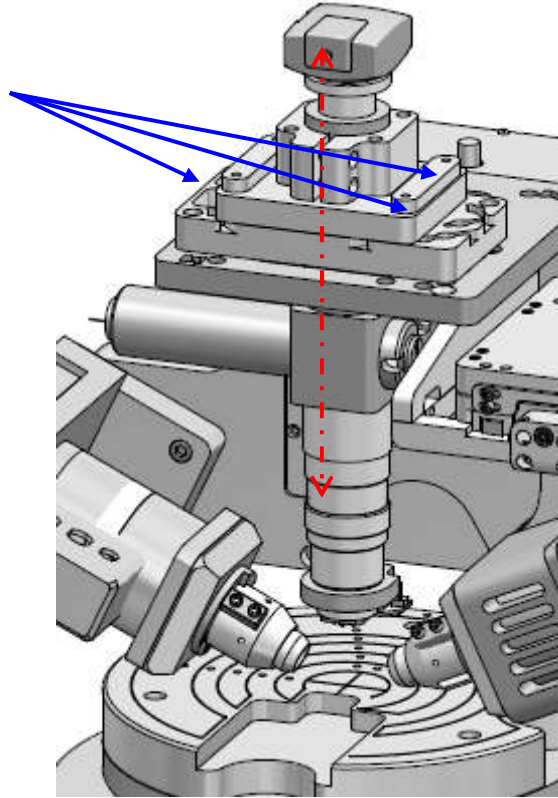

Figure 8-5. Camera tilt stage and adjustment screws.
6. If necessary, tilt the camera to center the beam on the screen. Use the diagonal adjustment screws of the camera tilt stage, shown in Figure 8-5.
7. If the camera is not in focus, adjust the Z height of the camera by turning each adjustment screw on the tilt stage by the same amount, shown in Figure 8-5.